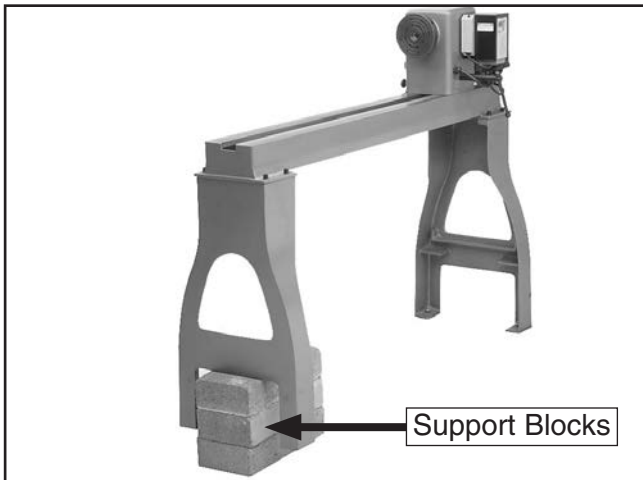

Figure 13. Example of supporting one end of lathe in preparation for installing the machine feet.
- Use assistants to lift the light end of the lathe onto support blocks in preparation for installing the machine feet (see **Figure 13**).